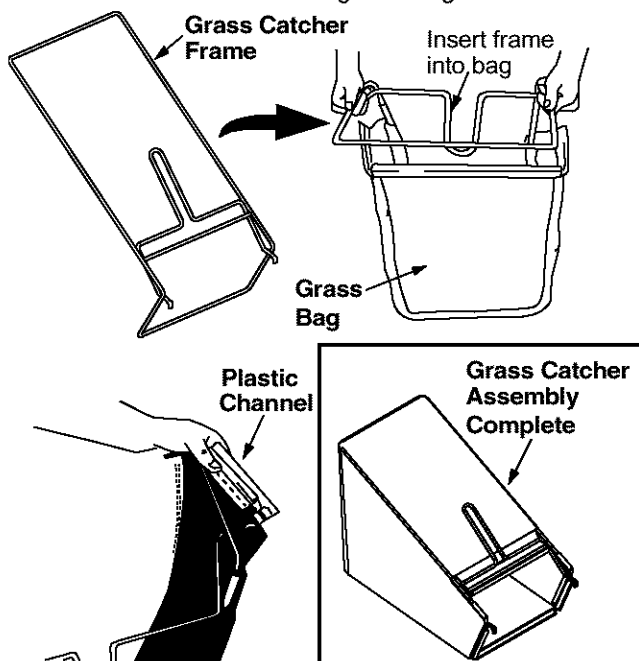

Figure 5
- Insert frame into grass bag with the black plastic side on the bottom of bag. See Figure 5.
- Slip the openings in the side of the plastic channel on bag over the hooks on the grass catcher frame. Secure bag to the frame by working the six plastic channels on bag over frame. All of the plastic channels except the center top of the bag attach from the outside of bag. The center top of the bag attaches from inside the bag. See Figure 5.